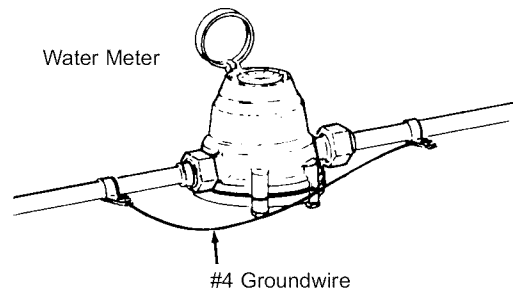

FIG. 21
**IMPORTANT:** Be sure the cold water pipe has direct metal to metal contact all the way to the ground. Plastic, rubber or other electrically insulating parts such as hoses, fittings, washers or gaskets can break the direct metal to metal contact. Also check the water meter (city water) or the well pump. Install #4 copper jumper wires, clamped tightly on both ends, across insulated parts. See Fig. 21.